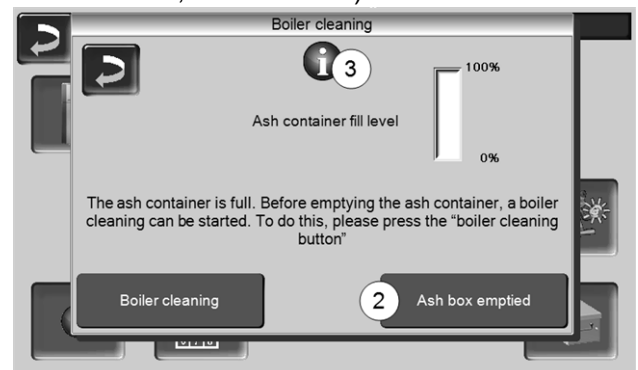

Fig. 2-53
- ▶ Press the *boiler cleaning* button > Fig. 2-53